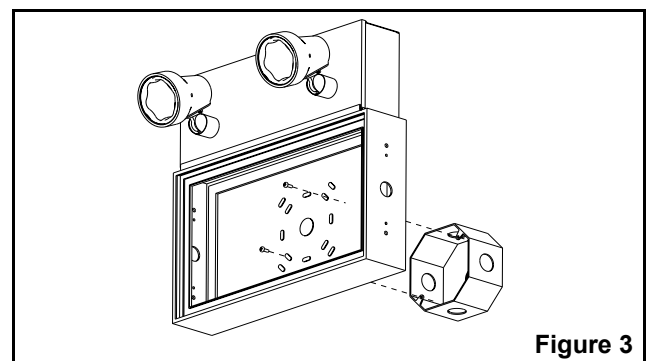

Figure 3
- c. Mount the exit sign securely to the junction box using the junction box screws (see fig. 3).